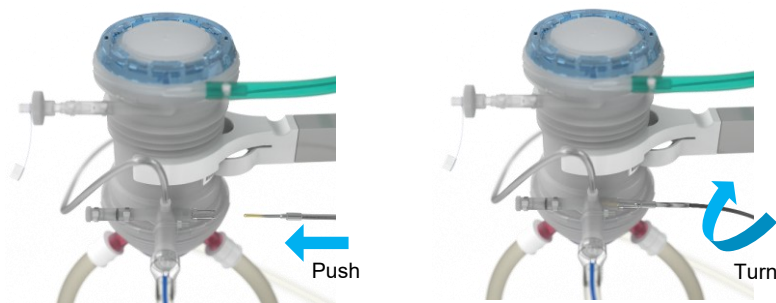

Figure 13 Connection of the temperature sensor to the oxygenator
- Connect the red T1 sensor to the oxygenator outlet (Figure 13).